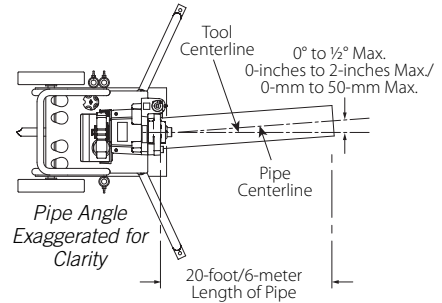

FIGURE 2 – TRACKING ANGLE
b. When flare is excessive, right-to-left tracking must be kept to a minimum. It may be necessary to use less than $\frac{1}{2}^\circ$ for the tracking angle (see Figure 2).
f. Position the pipe stand approximately 0 to $\frac{1}{2}^\circ$ to the left for the tracking angle. Refer to Figure 2 below.